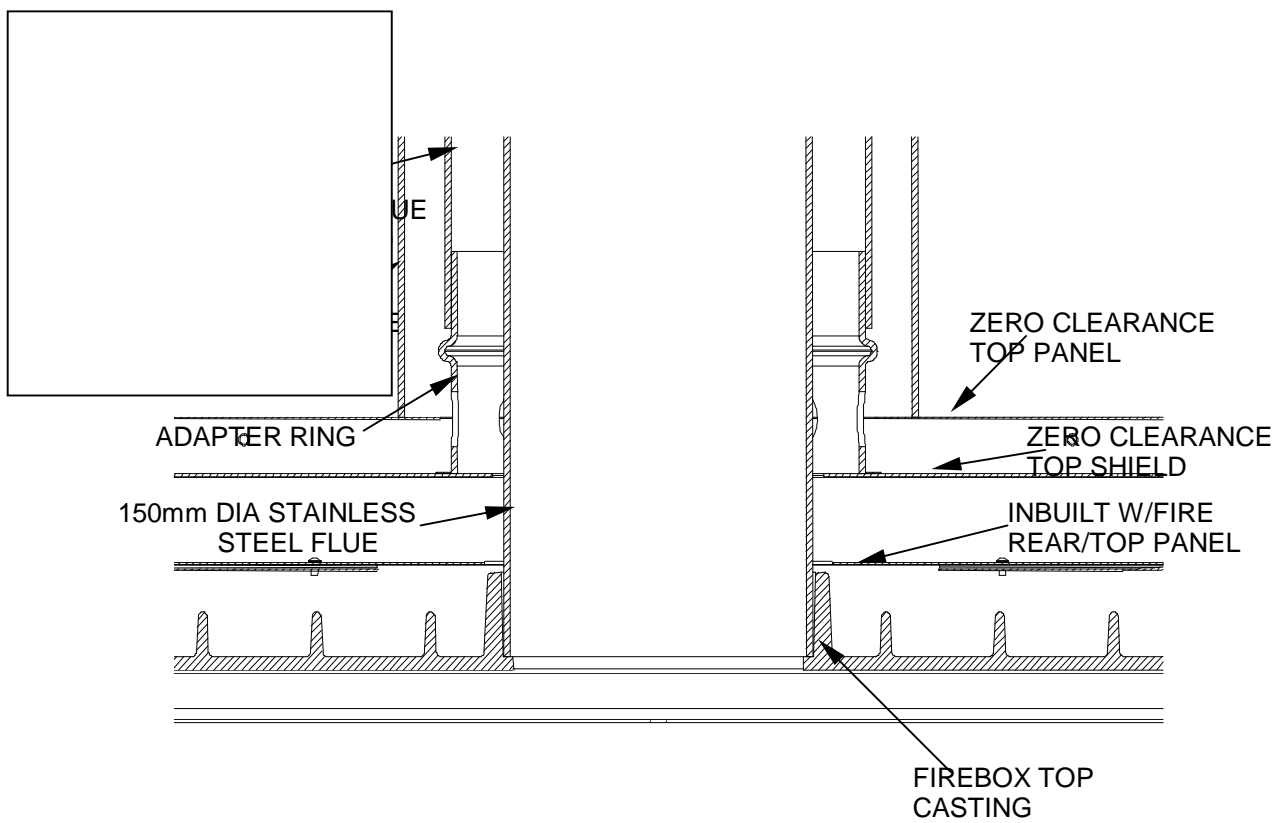

Fig. 7
8. Penetrate the roofing material on the flue centreline. Working from the bottom, assemble sections of the flue and the inner and outer flue heat shields (casings) and pass them up through the hole in the roof. Remember the flue sections must be fixed together at each joint with at least two rust-proof fasteners, and the crimped ends of the flue heat shields go to the top. When the flue system is finally in position, the inner shield must extend up past the roof penetration point and the outer shield must be sufficiently high to avoid down-draughts in the finished flue. If the flue centreline is within 3m of the ridge, the outer shield must end at least 600mm above the roof ridge. If it is further than 3m from the ridge, the shield must extend at least 900mm above the point of roof penetration. In some cases where there are trees or high buildings in the vicinity, it may be necessary to increase this height to avoid down-draughts. Note that the 200mm adapter ring (with holes which ventilate the space between the flue and the inner shield) will be fitted into the shielding box assembly and will engage in the bottom of the inner heat shield (see Fig. 7). Fit a temporary support to hold the flue system high enough to permit sliding in the shielding box.